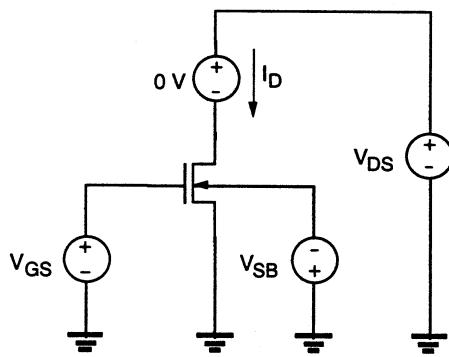

Figure P3.7
**3.7** A set of *I-V* characteristics of an nMOS transistor at room temperature are shown in below for different biasing conditions. Figure P3.7 shows the measurement setup. Using the data, find